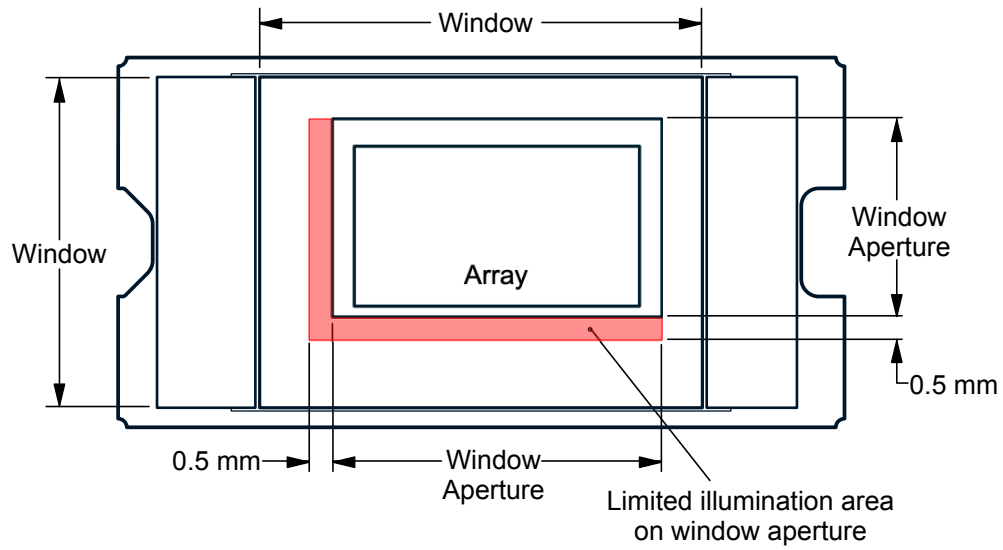

Figure 1. Illumination Overfill Diagram
| ILL OVERFILL                 | Illumination overfill maximum heat load in area shown in <a href="#">Figure 1</a> (8) |                        | T ARRAY ≤ 75°C | 26                     | mW/mm 2 |
| ILL OVERFILL                 | Illumination overfill maximum heat load in area shown in <a href="#">Figure 1</a> (8) |                        | T ARRAY > 75°C | 20                     |                    |